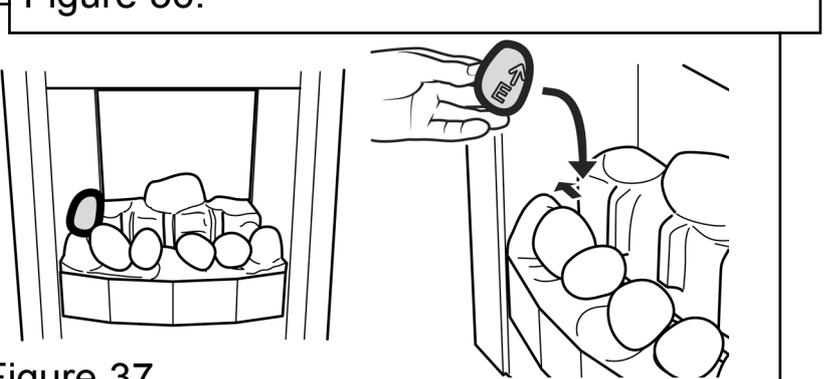

Figure 37.
8. Hold pebble 'E' upright with the arrow pointing to the top. Place pebble 'E' between the front and rear base pebbles. It should rest against the side of the firebox. (See figure 37).